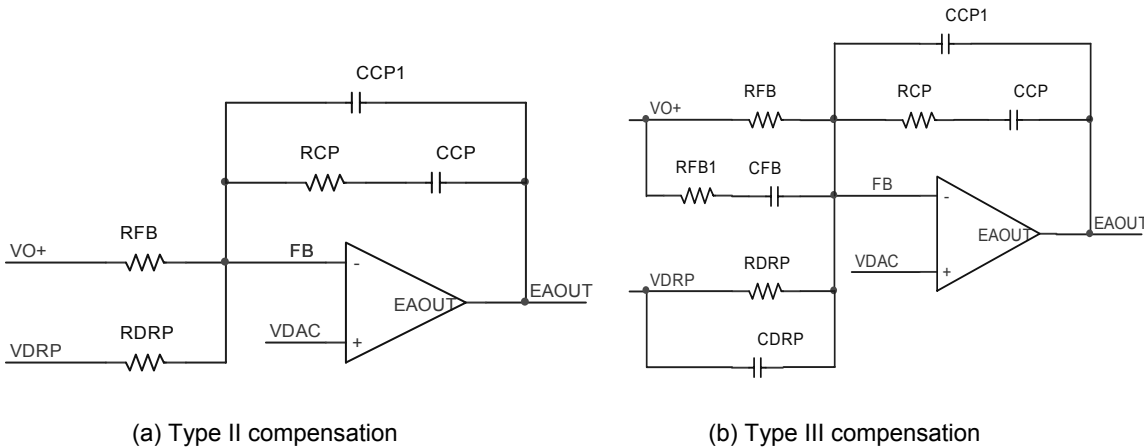

Figure 12. Voltage loop compensation network
Resistors RFB and RDRP are chosen according to Equations (13) and (14), and the selection of compensation types depends on the output capacitors used in the converter. For the applications using Electrolytic, Polymer or AL-Polymer capacitors and running at lower frequency, type II compensation shown in Figure 12(a) is usually enough. While for the applications using only ceramic capacitors and running at higher frequency, type III compensation shown in Figure 12(b) is preferred.
For applications where AVP is not required, the compensation is the same as for the regular voltage mode control. For converter using Polymer, AL-Polymer, and ceramic capacitors, which have much higher ESR zero frequency, type III compensation is required as shown in Figure 12(b) with RDRP and CDRP removed.